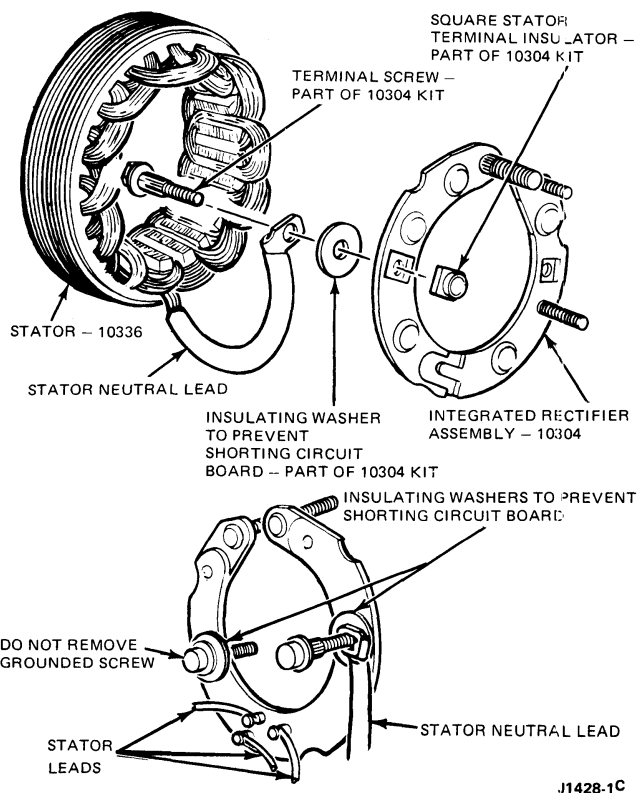
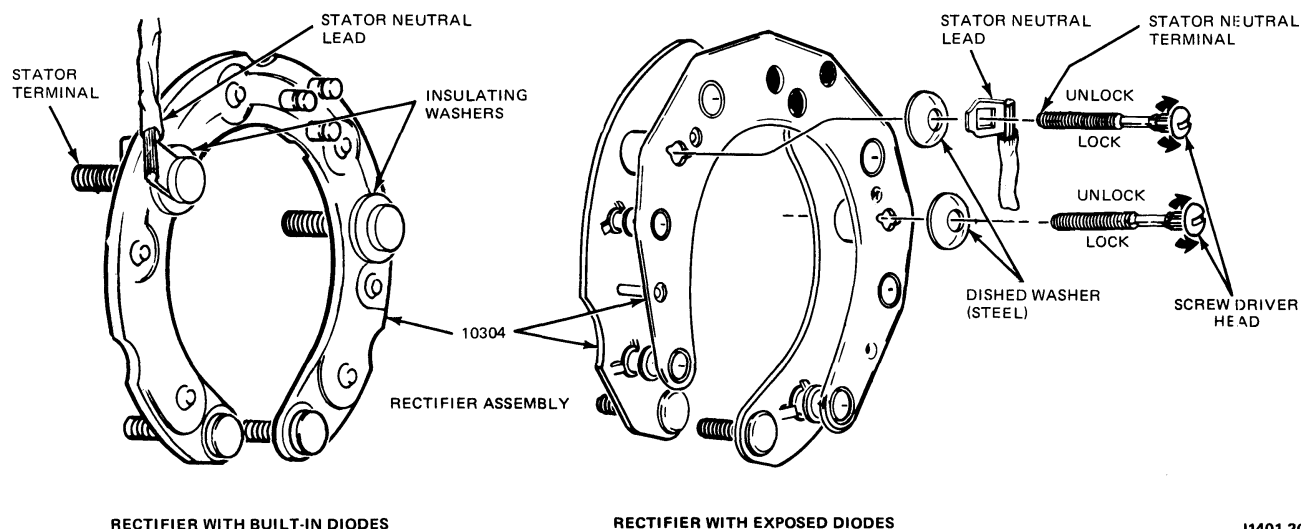

FIG. 6 Stator Terminal Installation—Rectifier with Built-In Diodes
FIG. 5 Rectifier Assemblies
8. Original production alternators will have one of two types of rectifier assembly circuit boards (Fig. 5); one has the circuit board spaced away from the diode plates with the diodes exposed. The other type is a single circuit board with built-in diodes.
- If the alternator rectifier has an exposed diode circuit board, remove the screws from the rectifier by rotating the bolt heads one-quarter turn clockwise to unlock them and then remove the screws (Fig. 5). Push the stator terminal straight out on a rectifier with the diodes built into the circuit board (Fig. 5). Avoid turning the screw while removing, to make certain that the straight knurl will engage the insulators when installing. Do not remove the grounded screw (Fig. 6).
dished washers and circuit board (Fig. 5). Turn them one-quarter turn counterclockwise to lock them. For single circuit boards with built-in diodes, insert the screws straight through the wire lug, insulating washer and rectifier into the insulator (Fig. 6).
The dished washers are to be used only on the circuit board with exposed diodes (Fig. 5). If they are used on the single circuit board, a short circuit will occur. A flat insulating washer is to be used between the stator terminal and the board, when a single circuit board is used (Fig. 6).
11. Position the radio noise suppression capacitor on the rectifier terminals. On the circuit board with exposed diodes, install the STA and BAT terminal insulators (Fig. 10). On the single circuit board, position the square stator-terminal insulator in the square hole in the rectifier assembly (Fig. 6). Position the BAT terminal insulator (Fig. 11) on the BAT terminal.